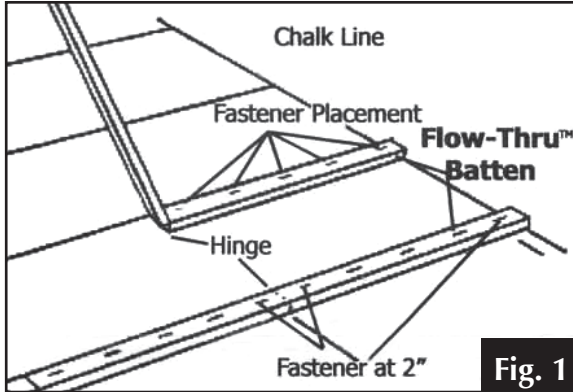

Fig. 1
1. Unfold Trimline Flow-Thru Batten to full 8-foot length and align along pre-chalked line. Nail or staple 2" in from the starting edge. Move over to the hinge of the Flow-Thru Batten and nail or staple 2" from hinge of the fold (See Fig. 1).